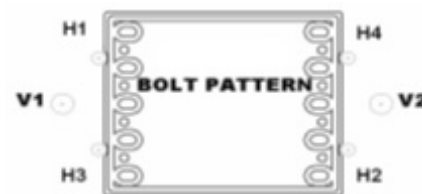

Figure 1
8. Figure 1 illustrates the bolt patterns for the two holder types: TangenX™ PRO 4-bolt horizontal cassette holder is designated by letters H1 through H4; TangenX™ PRO 2-bolt vertical holder is designated by letters V1 and V2.
Wait 5-10 minutes and allow the gaskets to relax before re-torquing. Check each nut, per the Figure 1 sequence, using the torque wrench at its set point torque value (see step 7 above).